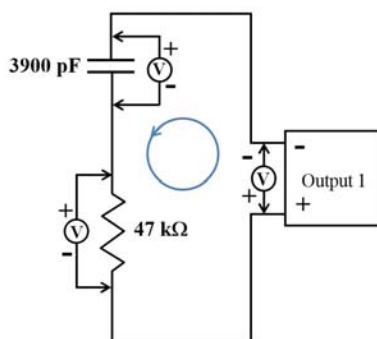
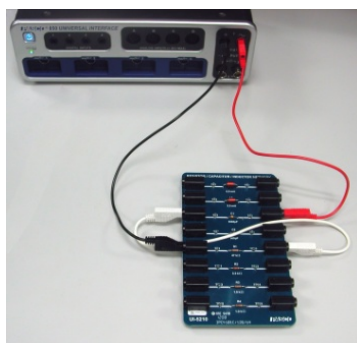
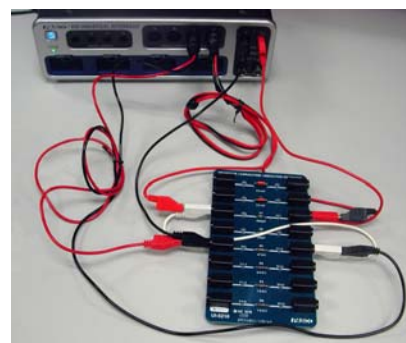

Fig. 10: Circuit Diagram
Figure 11: RC Series
Figure 12: Adding the Sensors
Construct the circuit shown in the Circuit Diagram (Figure 10) with reference to Figures 11 and 12:
- First construct the series circuit shown in Figure 11 using the 3900 pF capacitor and the $47 \text{ k}\Omega$ resistor. Note the polarities, with the red lead from the 850 Output 1 attached to
2. Now add the Voltage Sensors as shown in Figure 12. The polarities must match that shown in Circuit Diagram (Fig. 10) with the red leads on the left ends of the resistor and capacitor. The Voltage Sensor across the resistor must attach to Channel C and the Voltage Sensor across the Capacitor must attach to Channel D.